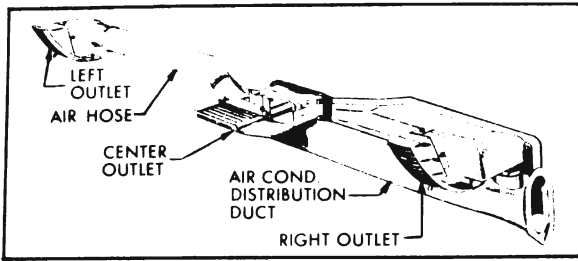
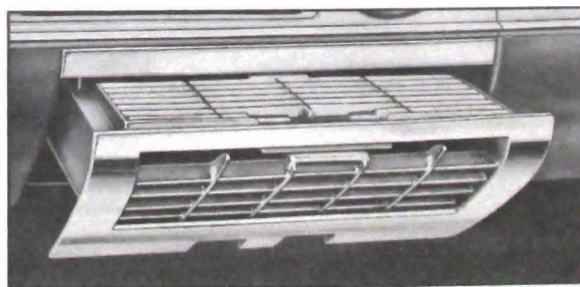

Figure 11-32—Air Conditioner Air Distribution System
Figure 11-38—Air Conditioner Center Outlet
The blower and air valve housing is mounted forward of the dash panel in such a manner that the car can be equipped with a heater or not, without affecting the air conditioner operation. The air conditioner uses an air distribution system entirely separate from the heater and defroster. If the car is equipped with a heater and defroster, however, the same blower and blower housing is used to force air through the air conditioner ducts or the heater ducts or both systems simultaneously. Air conditioner air distribution system is shown in Figure 11-32.
8. *Air Distribution System.* The air conditioner air distribution system is entirely separate from the car heater air distribution system. The air conditioner air distribution duct mounts forward of the car heater duct with the right end positioned against what would be the right outside air grille on a non-air conditioned job. See Figure 11-32. Air is introduced into the car through three outlets—one at each end of the instrument panel and one in the center of the lower roll of the instrument panel directly below the radio dial. See Figures 11-38 and 11-39.